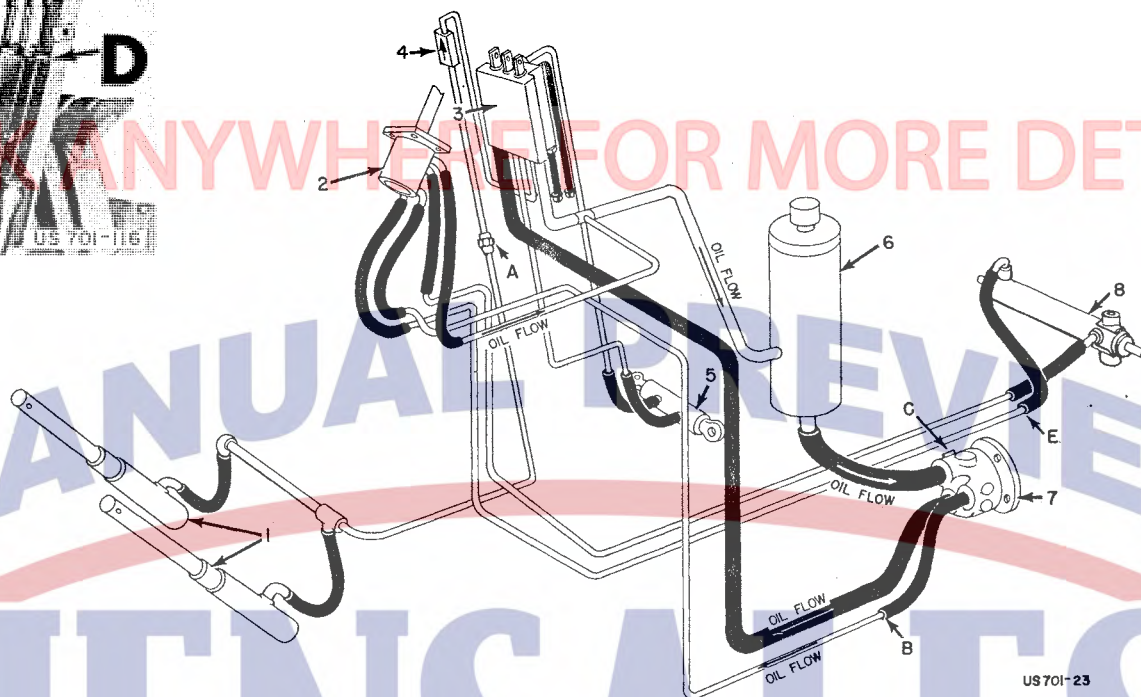

Figure 20
Fig. 20 - Before checking the oil pressure, make sure to check that the oil pump drive belts are tight. See Page 20, Fig. 35, to adjust the belts. Check the oil level in the reservoir to make sure it is full. To check oil pressure, we suggest attaching a pressure gauge to line at "A". With the engine running at full throttle, and rams (1) fully extended, hold hydraulic lever open. It should register between 1500 & 1600 P. S. I. If it does not, check for leaks, bent or obstructed lines, or the pump may be at fault. The pressure can be changed by adding or removing shims next to the relief valve spring under cap plug at "D". This applies to the entire system except for the power steering. The pressure for the power steering should be 1250 P.S.I. To check this, we suggest attaching a pressure gauge to line "B" or line "E". The engine must be running at full throttle when this is checked and the steering turned to the extreme right only. NOTE: Hold steering wheel against stop, but, do not turn wheel any further. The pressure can be changed by adding or removing shims next to the relief valve spring under cap plug at "C". Checking the pressure at line "B" would tell if the pump was putting out the proper pressure. Checking at line "E" would tell if the steering motor might be at fault.